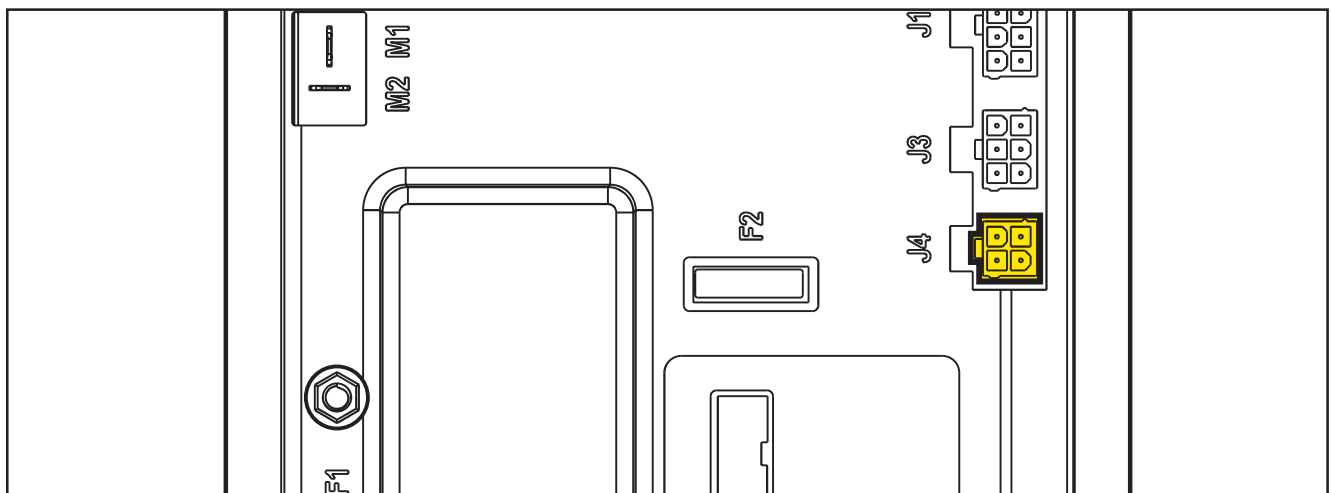

Figure 25:
**(Figure 25) J4: MOLEX MINIFIT type, 4-ways vertical**